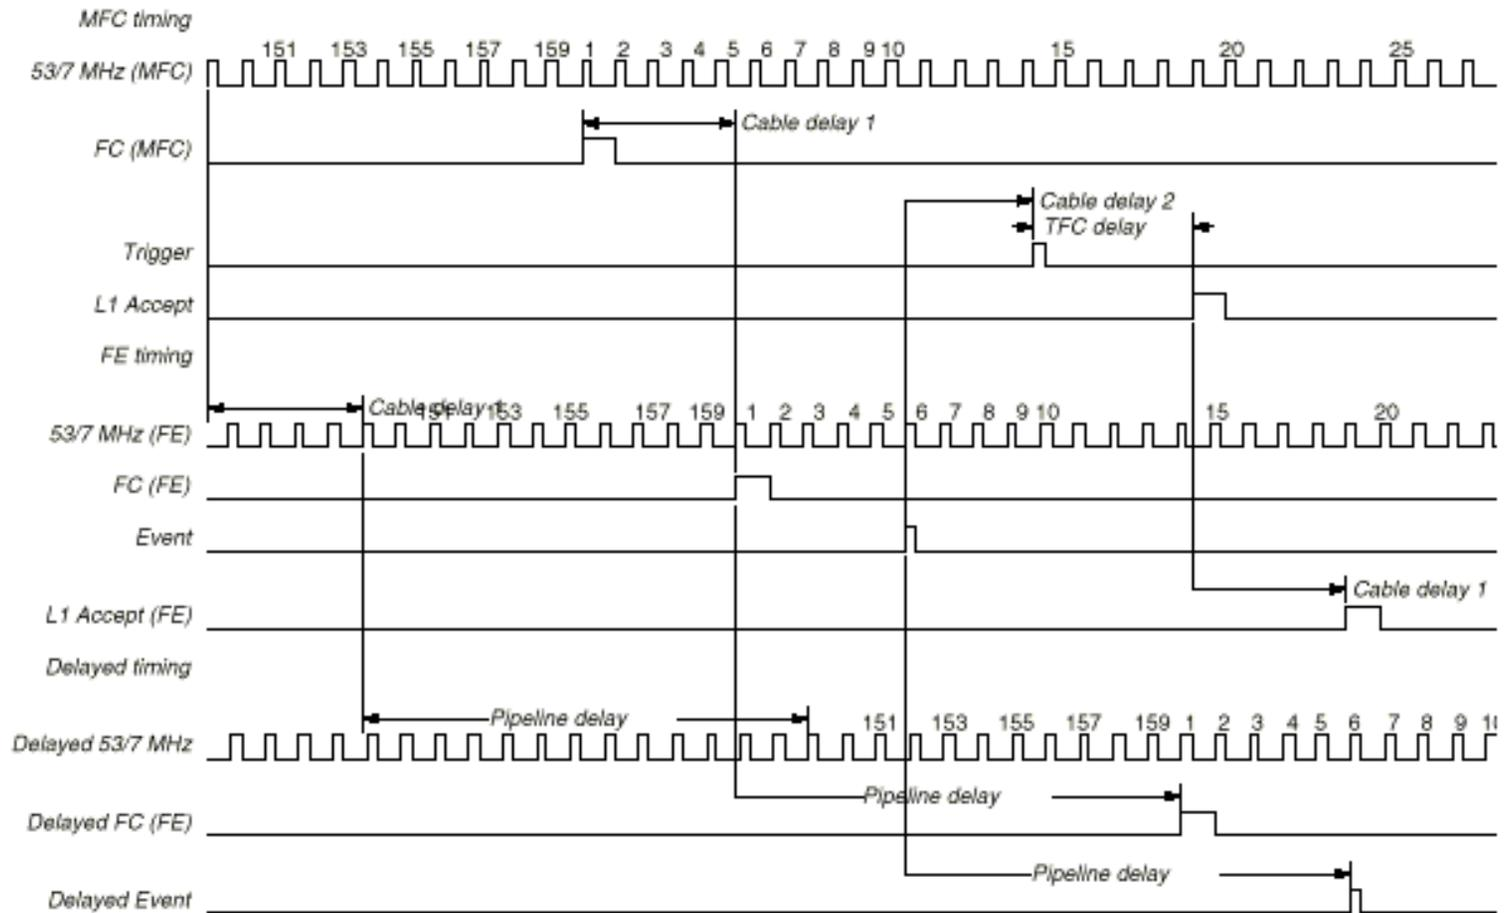

Figure 1. Muon System Timing Diagram.
This note describes a few aspects of Muon Fanout Card (MFC) and Trigger Fanout Card (TFC) timing issues. It is necessary to understand relative timing for all the elements of the muon system in order to design and set it up properly. Typical diagram of the muon system timing is presented in **Figure 1**.
Expected difference between TFW and TFC timing relative to the beam is equal to the propagation delay from MFC to TFC and back. It is preferable to avoid timing adjustment delays in front-ends when switching from TFW timing to the TFC timing. **Figure 1** assumes no difference between timing sources mentioned above.
Timing sequence generated by MFC arrives at front-end (FE) location after *Cable delay 1* that includes cable delay between MCH and FE and, also, FE beam adjustment delay. At this point timing is synchronized to the beam. When event occurs, event data is stored in the FE pipeline and also trigger signal is send up to the MCH to signal TFC that event needs to be readout. In our example, this happens at crossing number six. (see FE timing in **Figure 1**).
L1 Accept signal arriving at the FE location will have to meet data flowing out of the pipelines at delayed crossing number six if all the settings are correct. The data will then be registered and transferred to the MCH via standard muon data interface. Observing **Figure 1**, one can derive simple equations describing relationship between different settings.